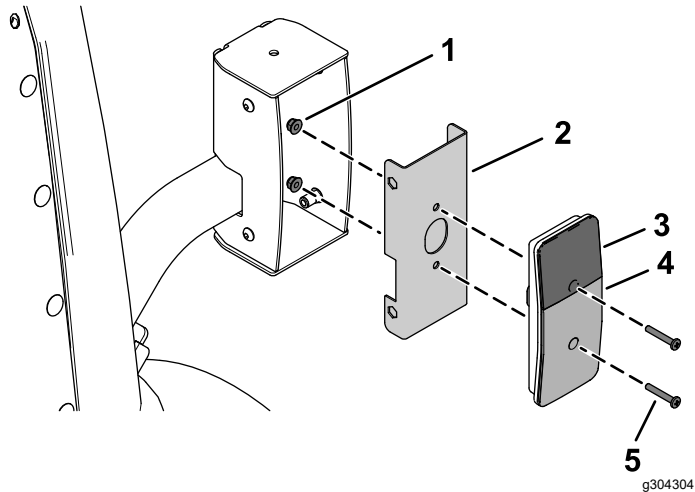
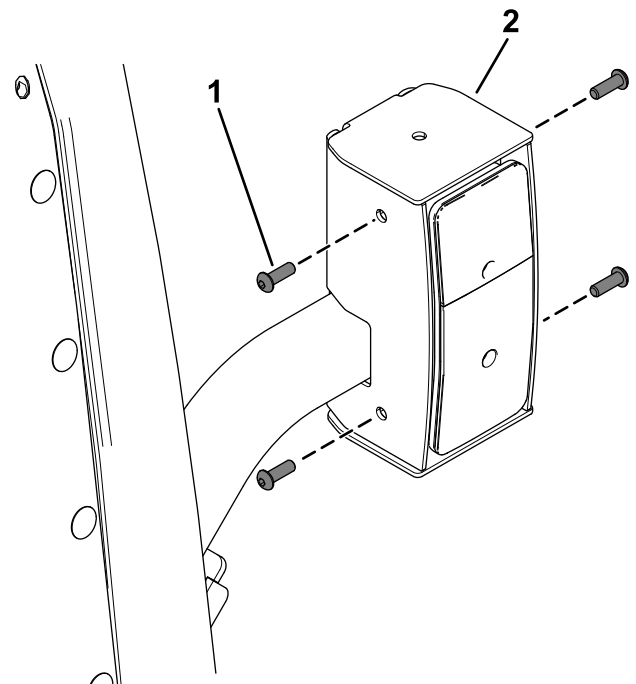

Figure 36
Figure 37
- Secure the taillights to the inner mount assemblies using 4 pan-head screws (#10 x 1-1/4 inches) and 4 flange nuts (#10) as shown in Figure 36.
- Secure the assembled taillights to the taillight housings using 8 button-head bolts (1/4 x 3/4 inch) as shown in Figure 37.
Ensure that you install the taillights with the yellow lens on top (Figure 36 and Figure 37).